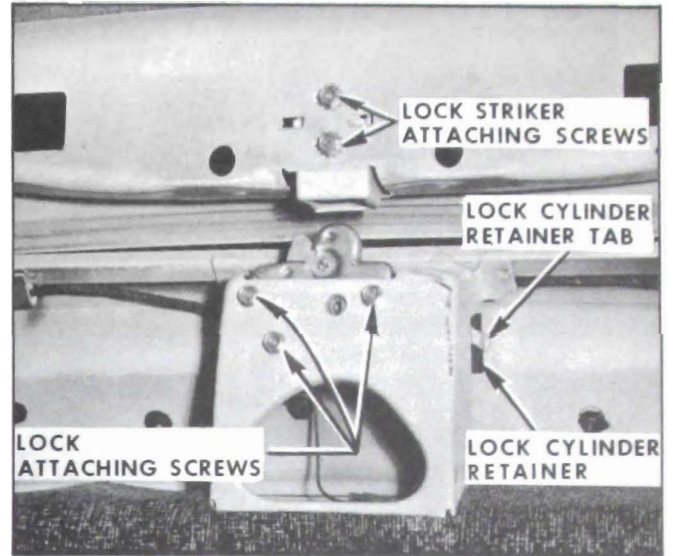

Figure 13-73—Rear Compartment Lid Lock Cylinder Removal
1. Carefully bend lock cylinder retainer tab (see Figure 13-73) forward to allow disengagement of retainer.
2. Using a suitable hooked tool, pull lock cylinder retainer (see Figure 13-73) until retainer disengages from lock cylinder.
2. Remove three (3) rear compartment lock attaching screws (see Figure 13-73) and remove lock.
1. Mark location of striker on compartment lid panel; then, remove striker attaching bolts and remove striker and retaining plates. See Figure 13-73.